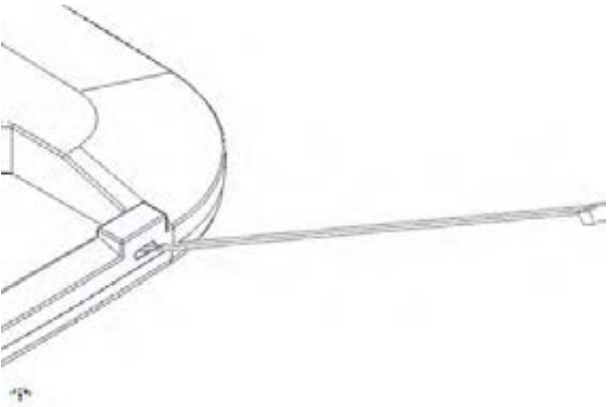

Figure 2 - Insert cable tie through Kensington lock slot
Step 2 – Turn the AP mount over so that the access point opening is facing upward. Install the Cisco mounting plate using four (4) #8-32 pan head screws. The mounting plate should be placed so that the round portions of the key slots are located closest to the enclosure lock (reference *Figure 2*). The Cisco "BRACKET 2" should be used with all Cisco 1400, 1600, 2600, 3500, and 3600 Access Points.
Step 3 - Optional safety tether: To attach the optional safety tether, insert the included cable tie into the Kensington lock slot at an angle toward the top of the access point. There is an opening that will allow the cable tie to pass through (reference *Figure 2*).